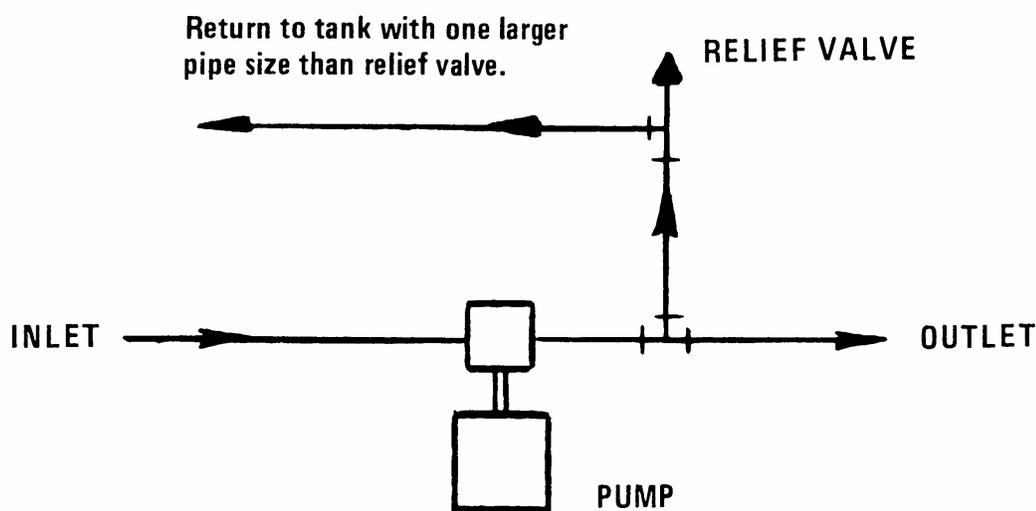

Fig. 2 - Typical piping arrangement showing pressure relief valve placement.
- 4. Pipe the outlet (discharge) oil line to the appropriate connection on the pump. Use piping the same size as the connection provided. A larger size may be used when the lines are long to avoid excessive pressure losses. A relief valve (bypass valve) must be installed as shown in figure 2. This valve must be adjusted so as to control and maintain the required pump discharge pressure of either 50, 100 or 150 psig. Refer to the instructions which accompanied the valve.